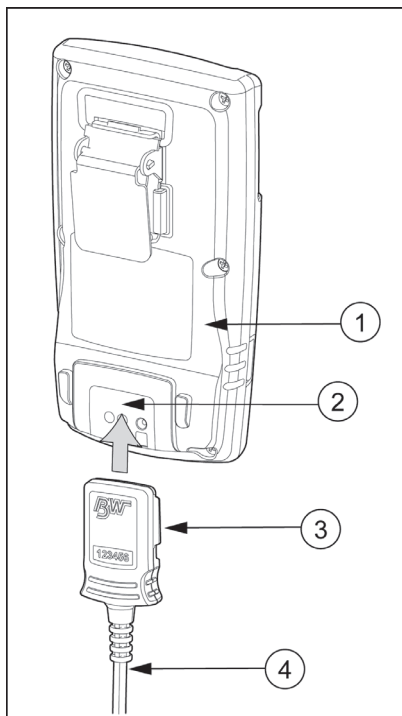

Figure 10. Connecting the Charging Adapter
To charge the battery, refer to Figure 10., Table 13., and the following procedures (1-8).
3. Attach the charging adapter to the charger interface. Refer to Figure 10.